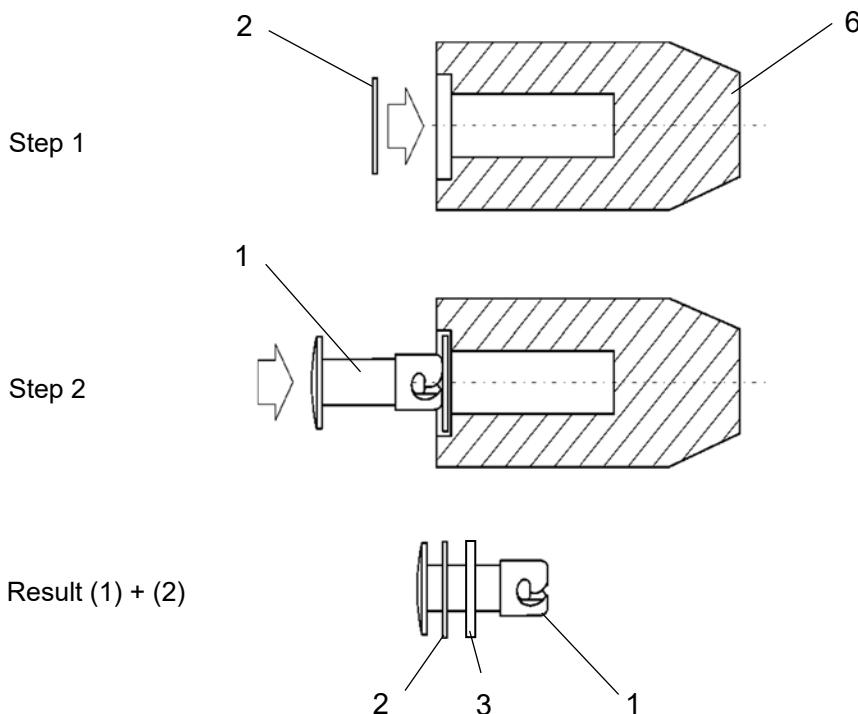

Figure 3-21: Install Quarter-Turn Fastener (1)
1. Insert plastic circlip (2) into mounting tool no. 1 (6). See Figure 3-21.
2. Set fastener (1) on mounting tool no. 1 and press fastener into mounting tool. The plastic circlip will be slid onto the fastener.
3. Attach sealing ring (3) to fastener.